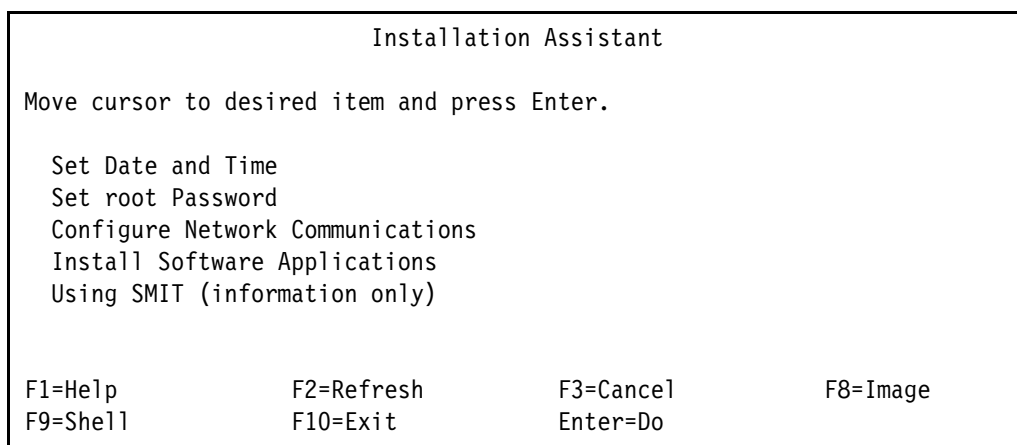

Figure 4-65 Post installation menu - Installation Assistant
- e. In the Installation Assistant main menu, select **Set Date and Time**. See Figure 4-65.